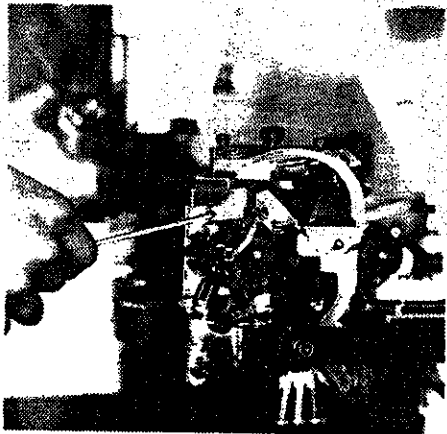

Fig. 7
4. ADJUSTING OVERLAPPING AMOUNT OF ELASTIC (Fig.7) (BUTTING \longleftrightarrow OVERLAPPING)